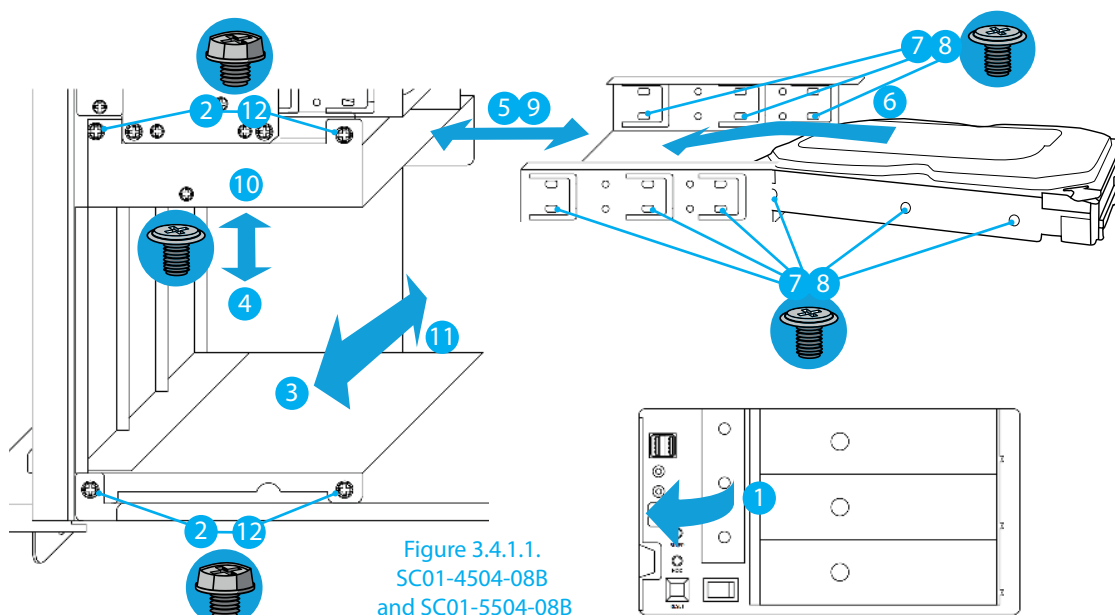

Figure 3.4.1.1.
3.4.1. SC01-4504-08B and SC01-5504-08B models (figure 3.4.1.1)
9. Insert back, carefully, the tray into the 5.25" outer bay (the exact opposite of the point (5)) – Figure 3.4.1.2.
10. Screw back 1 Phillips bolt with flange, responsible for fixing 5.25" outer bay with the 3.5" tray – (the exact opposite of the point (4)).